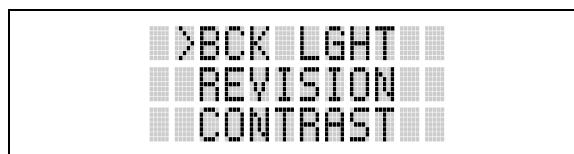

Figure 8-6: Menu Display
2. Upon entering the menu selection mode, Menu options will appear in the display (see Figure 8-6).